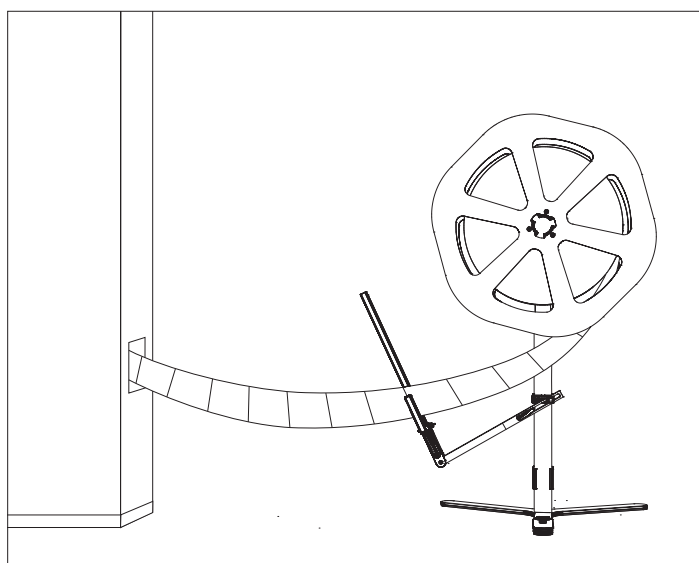

Figure 1 - Pouch Winder Setup
To prevent incorrect winding, it is important to correctly position the spool relative to the packaging machine (see Figure 1).
- STEP 1** Plug the *Pouch Winder* into the power outlet and place it with an empty *spool* [L] next to the packaging machine (see Figure 1).